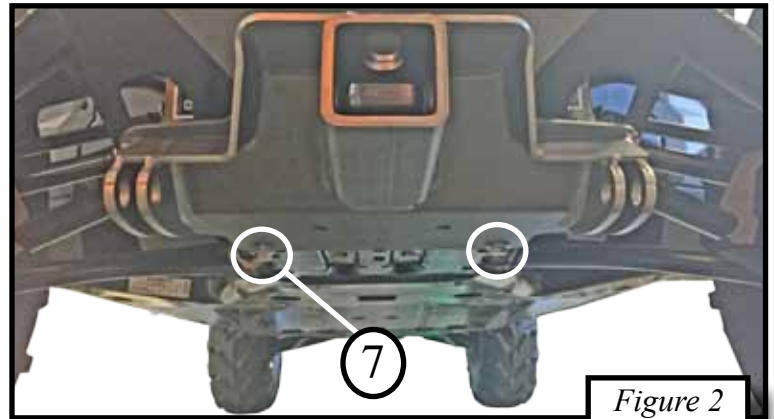

Figure 2
1. Place plow mount up to machine, insert the longer 3/8" bolts (7) through mounting plate and machine frame as shown in *Figure 2*. Loosely thread nuts onto bolts, **DO NOT TIGHTEN AT THIS TIME**.